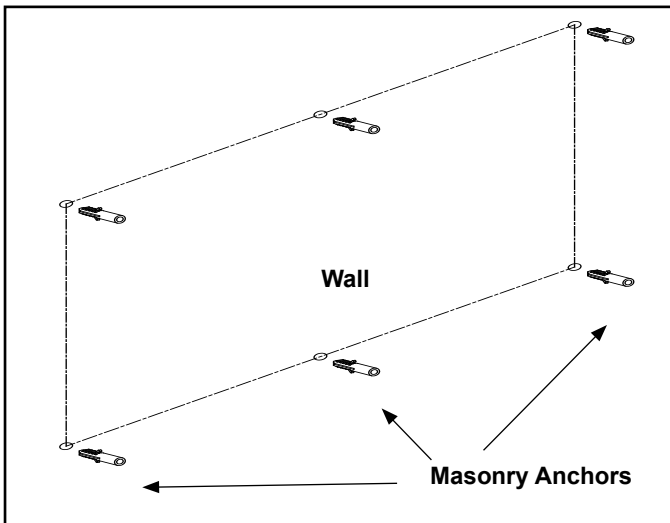

Figure 6 Masonry Anchor Placement
- In the marked locations, drill 5/16 in. diameter x 2 in. deep holes. See Figure 6.